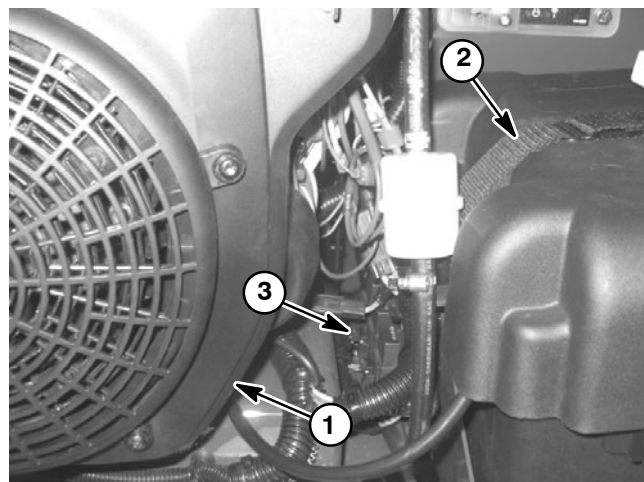

Figure 13
The ProForce Debris Blower electrical system includes three (3) identical relays. The fuel, magneto and power relays are secured to a frame bracket between the battery and the engine (Fig. 13). All three relays are energized by the Remote Control Module. Relays can be identified by a tag on the wire harness.